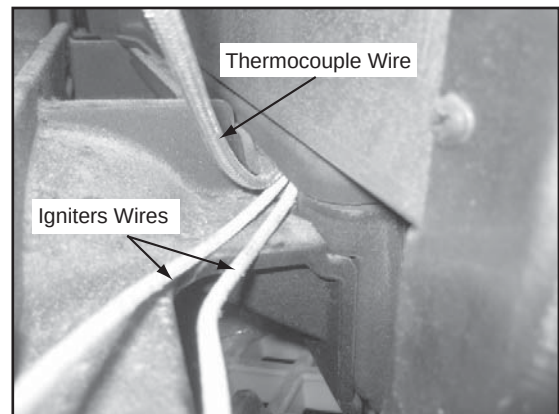

Figure 3
- The female spade connectors attached to the igniter will slide through the opening in the cast firebox in the back of the appliance. **Figure 3.**